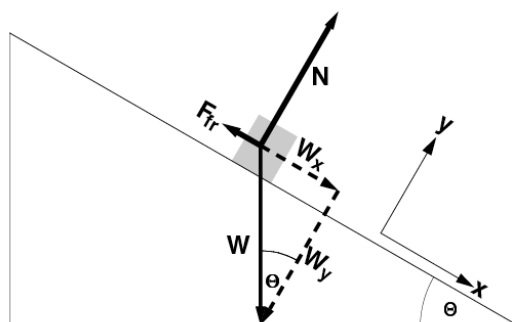

Fig. 3.1 Free-body diagram of an object sliding down an inclined plane
In this experiment, you will measure the velocity of a cart at various points as it glides down a slightly inclined and nearly frictionless track. In addition you will learn several techniques for finding acceleration. When an object slides down an incline, there are three forces acting upon it: the normal force, (N) of the incline pushing up on the object, the weight of the object (W), and any frictional forces (F_{fr}). Figure 3.1 illustrates these forces. The dashed lines indicate the components of the object's weight along and perpendicular to the incline.
Any net force in the x-direction will cause the object to slide along the incline. Summing the x-components of the forces shown in Figure 3.1, we find that: